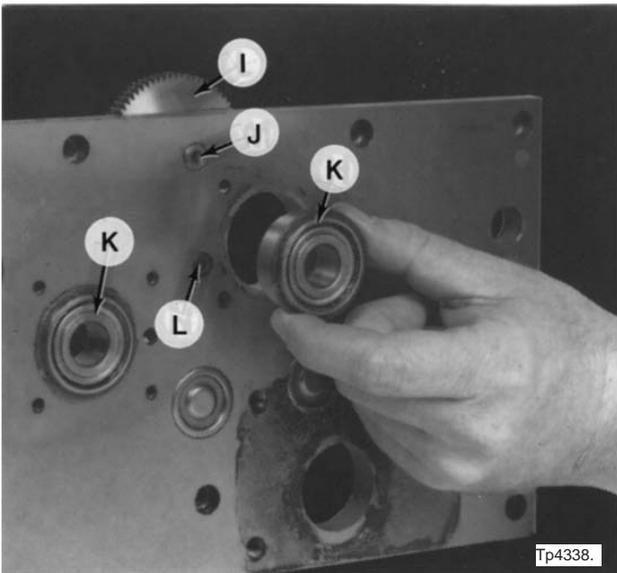
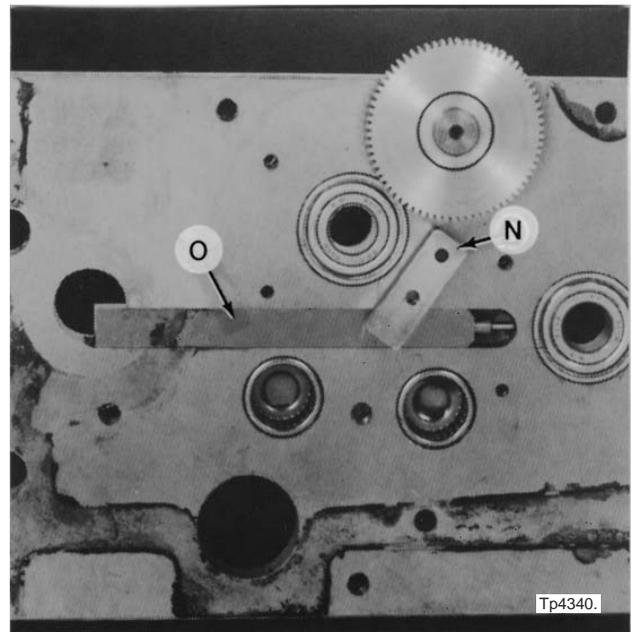
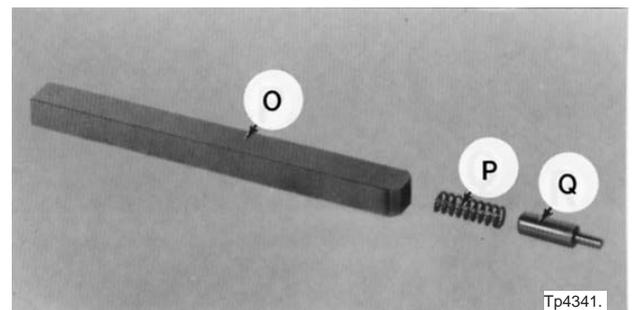

Figure 1.11 - Clutch Bearing Removal
Figure 1.13 - Longitudinal Feed Interlock
Figure 1.14 - Interlock Components
It is not necessary to remove the snap ring from bearing "K", Figure 1.11, to disassemble the clutch assemblies.
19. Remove two clutch bearings "K", Figure 1.11, from the face of the apron cover.
21. If necessary, remove 70 tooth gear "I", Figure 1.11, by driving out stud "J".
22. Remove screw "L", Figure 1.11, to remove interlock plate "N", Figure 1.13 .
23. Remove longitudinal feed interlock bar "O", Figures 1.13 and 1.14, and spring "P" and plunger "Q", Figure 1.14 .
4. Install spring “P”, Figure 1.14, and plunger “Q” in longitudinal feed interlock bar “O”.
Longitudinal feed interlock bar “O”, Figure 1.13, must be positioned with the clearance chamfers as shown.
5. Replace longitudinal feed interlock bar “O”, as shown in Figure 1.13 .
6. Remount interlock plate “N”, Figure 1.13, using screw “L”, Figure 1.11 .
7. If removed, replace 70 tooth gear “I”, Figure 1.11 .
9. Replace clutch bearings “K”, Figure 1.11 .